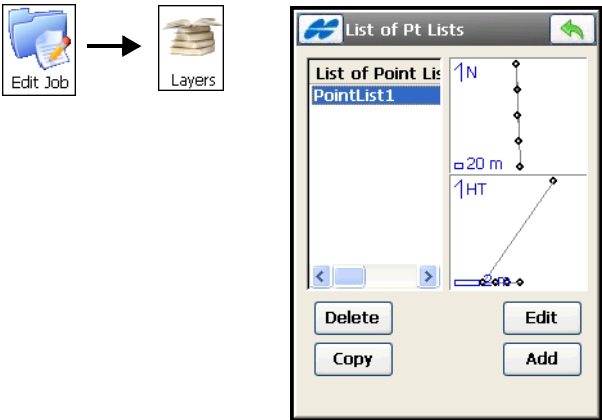

Figure 6-20. List of Point Lists
1. To add a point list, tap the **Add** button on the *List of Pt Lists* screen (Figure 6-20).